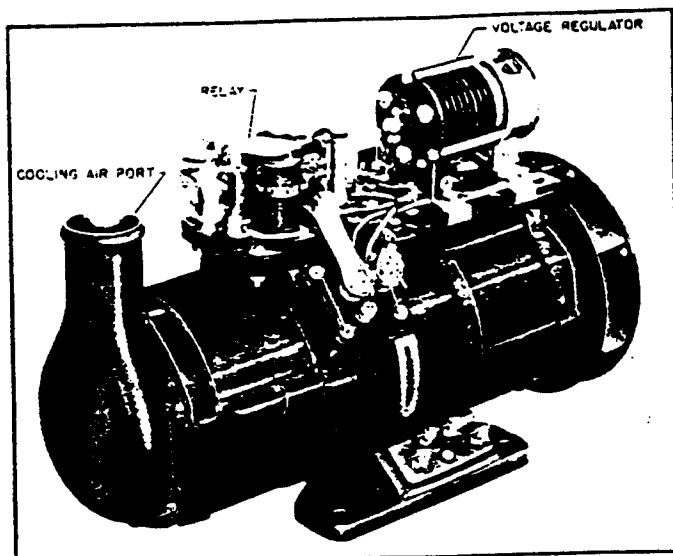

Figure 9. Motor Generator
(2) MOTOR-GENERATORS. (See figure 9.)
(i) VOLTAGE REGULATOR. (Figure 9.)
1. DESCRIPTION. (See figures 9 and 10.)